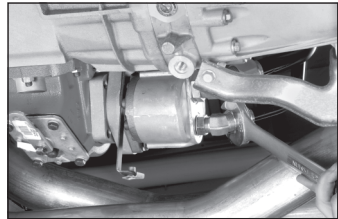

Fig. 21
23. Next attach hydraulic tubes to the pump and tighten the fittings to the pump and tube nuts (Fig. 21). Position the fitting by backing out (counter-clockwise) up to one full turn. Hold fitting and tubing in desired position and tighten lock nut with a wrench. Assemble tube to fitting by tightening the assembly with wrench until solid feeling is encountered. From that point, apply one-sixth turn.